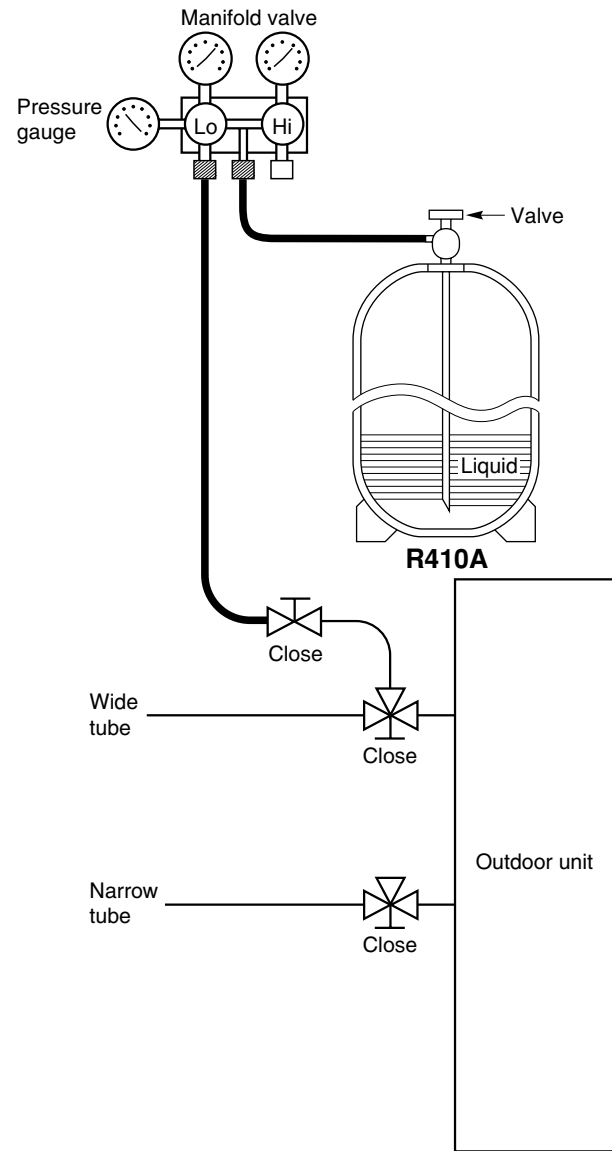

Fig. 8-5
- Charging additional refrigerant (calculated from the narrow tube length as shown in P. 12, Amount of additional refrigerant charge) using the narrow tube service valve. (Fig. 8-5)